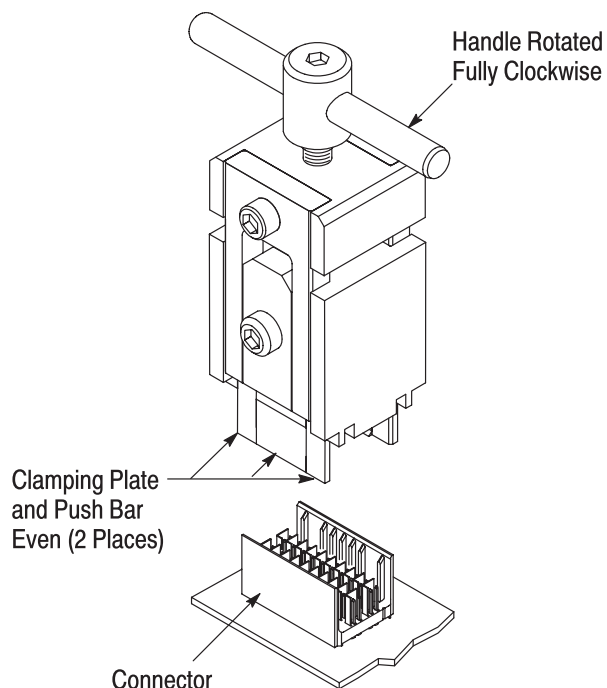
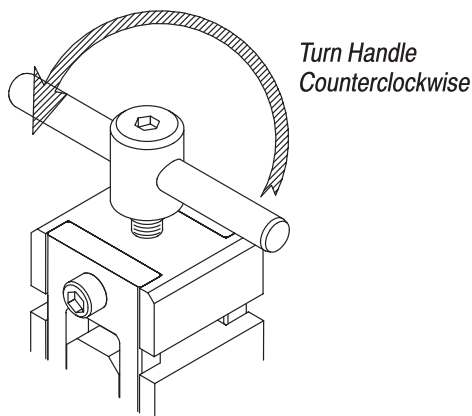

Figure 2
Figure 4
2. Make sure that the tool handle is rotated fully clockwise so that the lower surfaces of the clamping plates and the lower surfaces of the push bars are even. Straddle the connector with the tooling, ensuring that the push bars and clamping plates are on either side of the connector walls. See Figure 2.
5. With the clamping plates tight against the connector, turn the handle *counterclockwise* until the connector comes free of the pc board. Refer to Figure 4.
- Switched previous Figure 2 and Figure 4